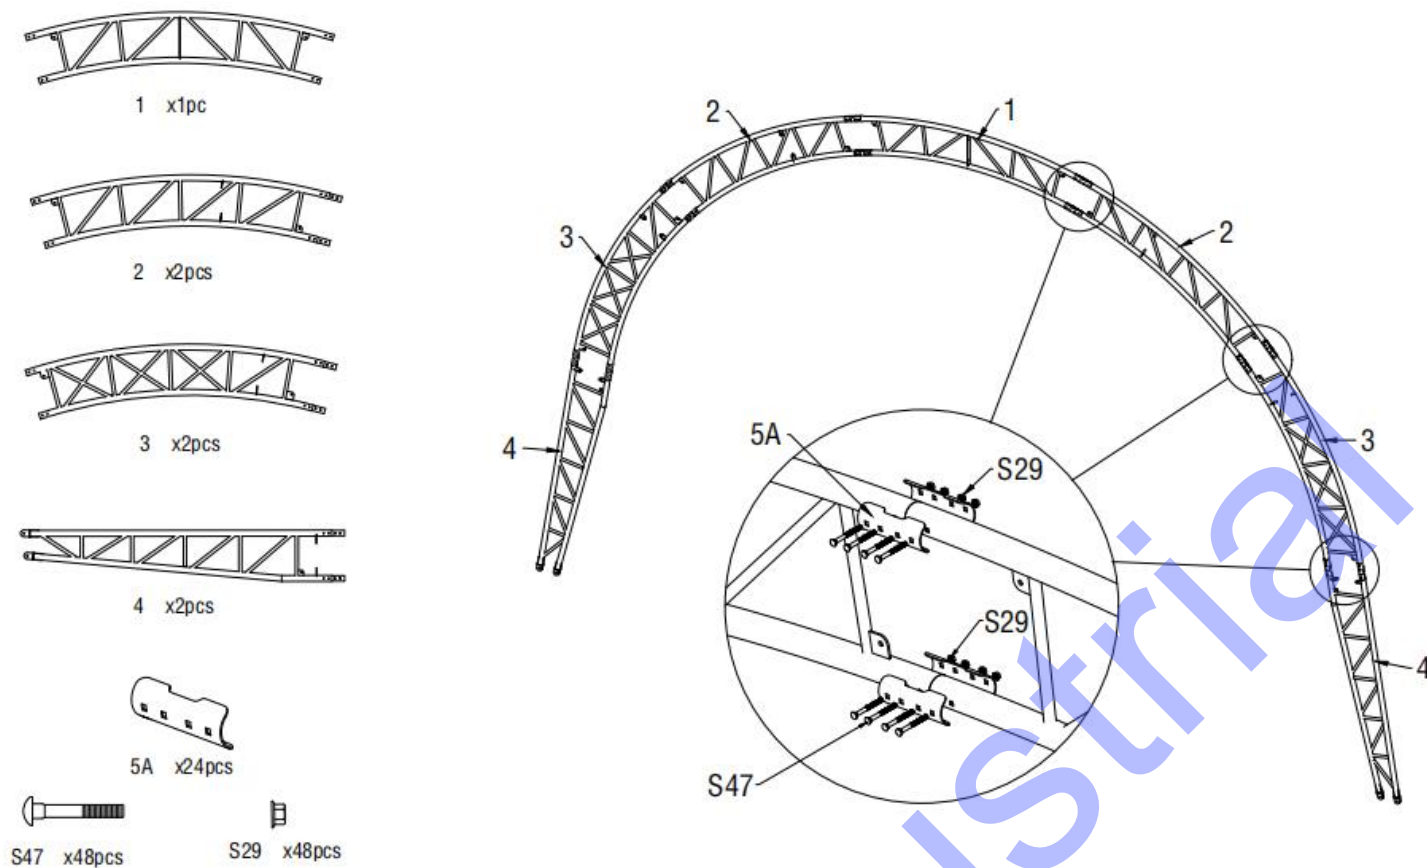

Figure 4
2. As Figure 4 shown to find one Top roof tube (No.1), two Roof upper curving tube (No. 2), two Roof middle curving tube at shoulder (No. 3), two Lower curving tube (4) and assemble every group arch with Carriage bolt M8x70 (No.S47). **DO NOT install the screw on the top of the truss where the fabric will rest.**
**Note:** Top Roof tube, Roof curving tube and Lower curving tube (No.1A,2A,3&4A&4B) which are welded with steel plates for front and back doors are different from the middle arch.(Figure 4)